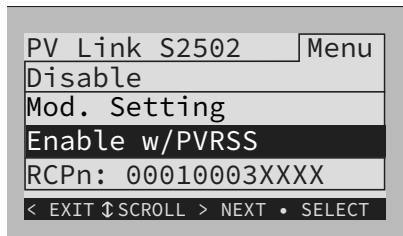

Figure 6-4. PVRSS Commissioning (3 of 4)
5. See Figure 6-4. Press the center button and select Enable w/PVRSS to enter the Testing PVRSS state.